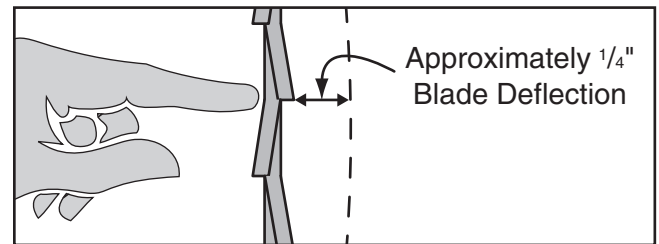

Figure 23. Proper amount of blade deflection.
4. Check the deflection of the blade by pushing it with moderate pressure midway between the upper blade guides and the table (see **Figure 23**). The proper amount of deflection is approximately $\frac{1}{4}$ ".